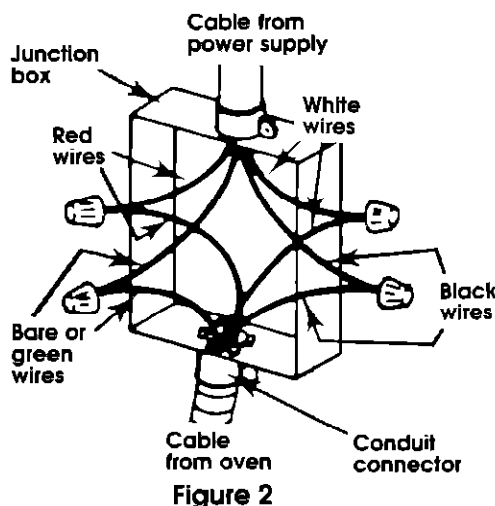

Figure 2
3. Connect the two black wires; then the two red wires. (See Figure 2.)